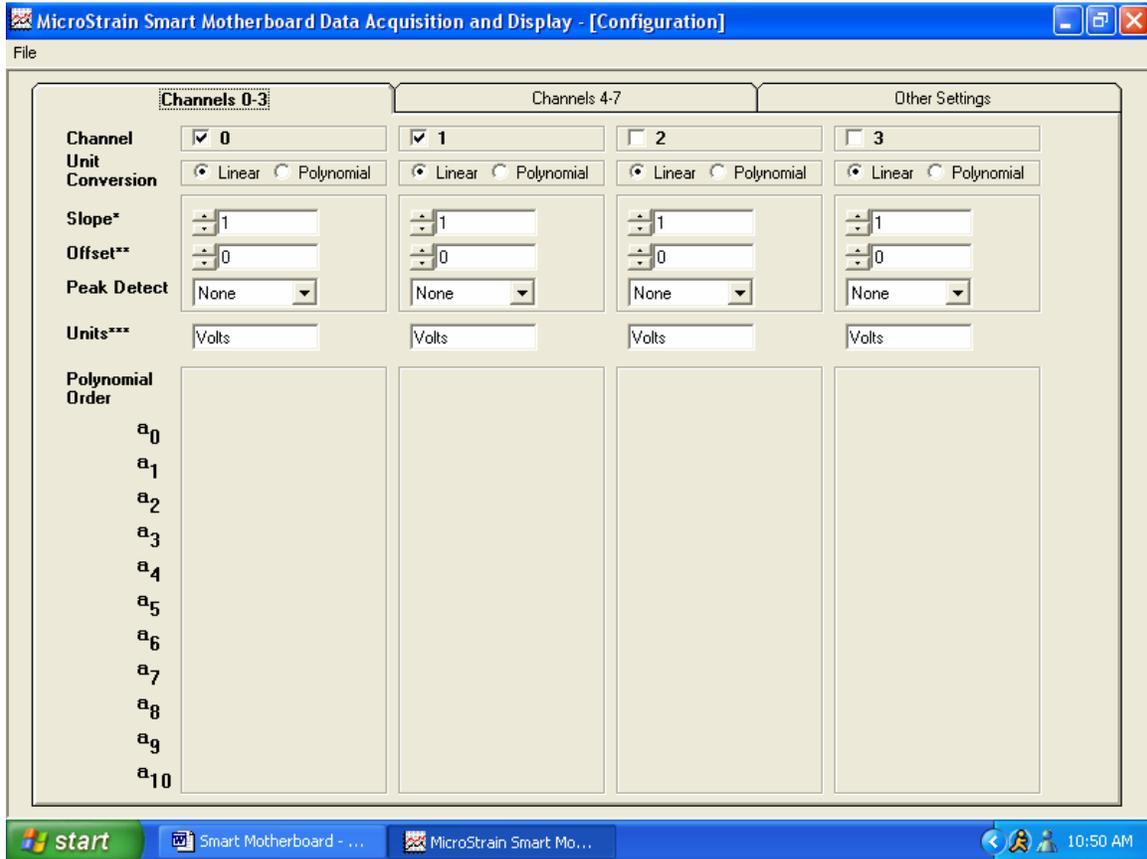

Figure 3.
- As stated above, the default configuration will be automatically loaded and the screen will appear like the example shown in figure 3.